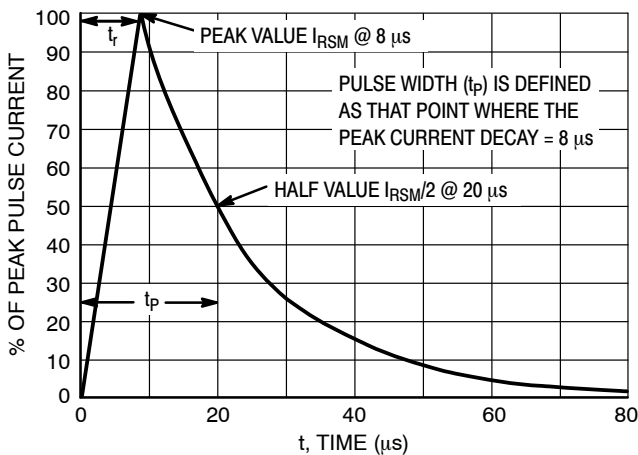

Figure 5. 8 X 20 μs Pulse Waveform
1. Non-repetitive current pulse per Figure 5 (Pin 5 to Pin 2)
- Non-repetitive current pulse per Figure 5 (Pin 5 to Pin 2)
- Surge current waveform per Figure 5.